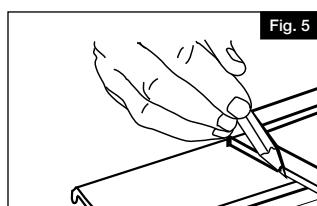
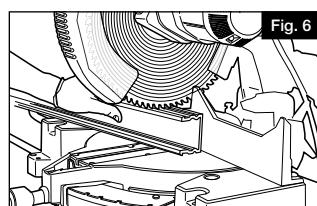

Fig. 5
Fig. 6
Ensure all mounting surfaces are plumb. Transfer your measurements and baluster layout from the bottom rail (B) to the top beam (D) (Fig. 5) ensuring the baluster slots are aligned. Cut the top beam, bottom beam, and bottom rail at the lines marked (Fig. 6).